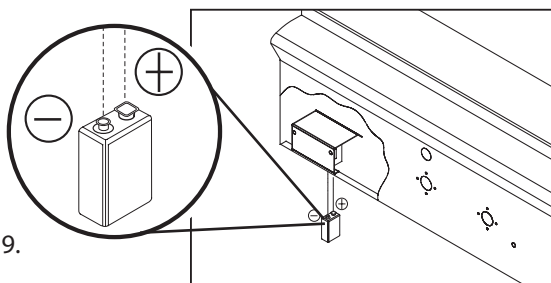

FIG. 28
4. Re-install upward and push to snap - Fig. 29. (Polarity as shown in Fig. 28).